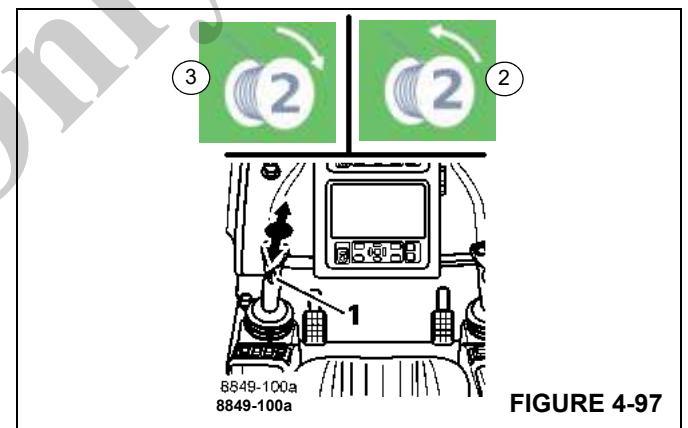

FIGURE 4-97
Raising:	Pull the control lever to the rear – symbol (3), (Figure 4-97) is displayed.